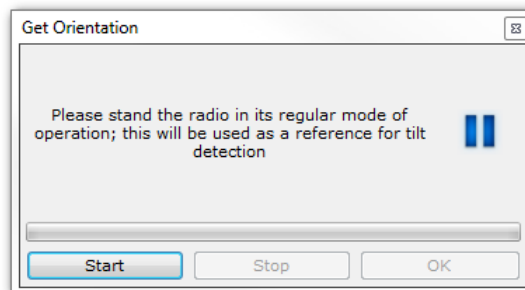

Figure 24 - Calibrating Tilt Reference
- 4) Calibrate the tilt reference for “up” by clicking the **Orientation** button in the toolbar, see Figure 24. The radio should be still and upright for this procedure. Once complete, the calibrated values will be automatically copied to the **Tilt Reference Orientation** setting.